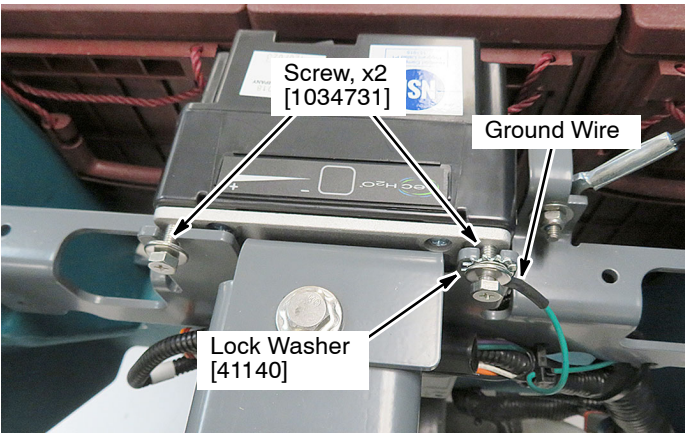

Fig. 7
- 6. Mount the ec-H2O module to the machine bracket using hardware as shown (Figure 7). Connect ground wire using lock washer as shown.